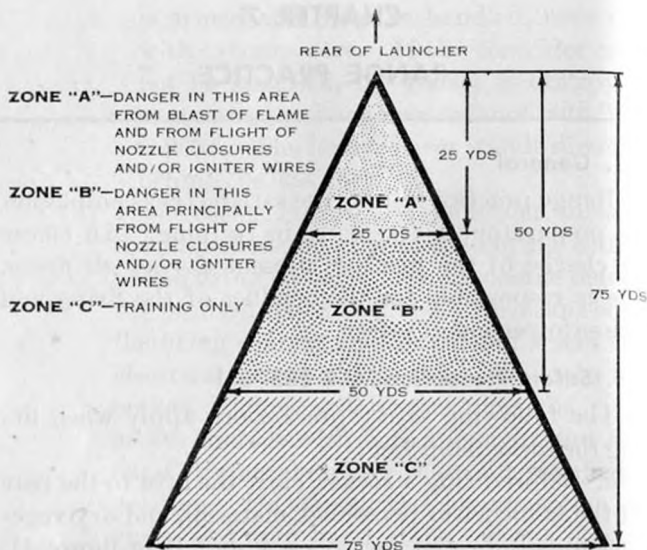

Figure 41. Danger zone to the rear of the 3.5-inch rocket launcher.
a. Before firing a rocket, clear the area to the rear of the launcher of personnel, material, and dry vegetation as indicated for zones A and B in figure 41. Clear zone A, the blast area, of all personnel, ammunition, material, and inflammables, such as dry vegetation. The danger in this zone is from the blast of flame to the rear. Clear zone B of all personnel and material unless protected by adequate shelter. The principal danger in zone B is from the rearward flight of nozzle closure and/or igniter wires. An additional safety factor for training is obtained by zone C.